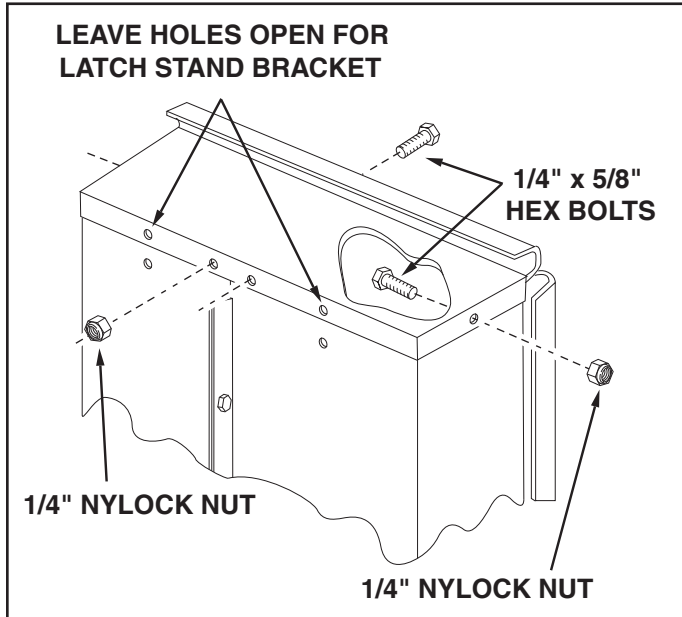

FIGURE 5
- Assemble the front panel over the end of the cart using four 1/4" x 5/8" hex bolts and 1/4" nylock nuts as shown in figure 5. Leave two holes shown in figure 5 empty in the bottom of the panel. Pull the cart body halves together and **tighten** the two bolts in the bottom of the front panel, then **tighten** the bolt in each side.